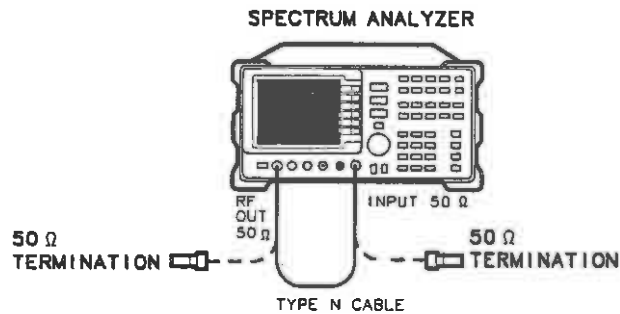

Figure 3-33. Tracking Generator Feedthrough Test Setup
1. Connect the Type N cable between the spectrum analyzer's RF OUT 50 $\Omega$  and INPUT 50 $\Omega$  connectors. See Figure 3-33.